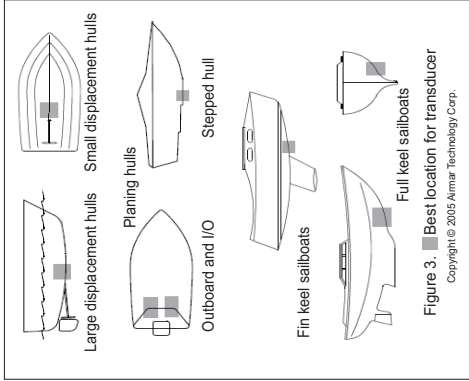

Figure 3. ■ Best location for transducer
- ### Hull Types (see Figure 3)